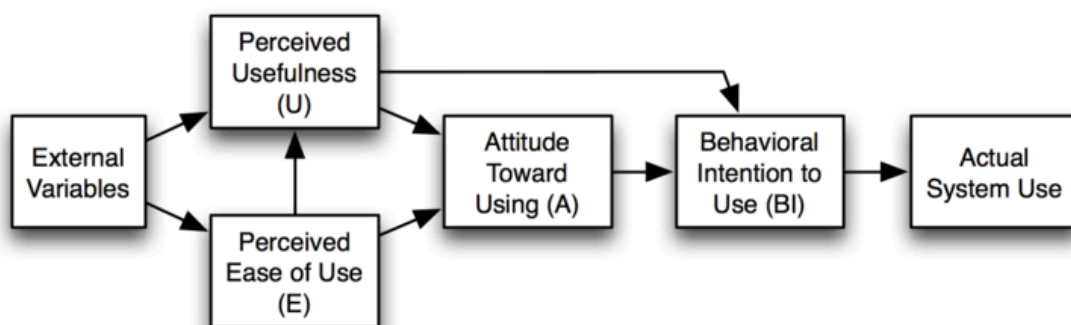

Figure 1: Original Technology Acceptance Model. Source: Davis (1989).
- There is little experience in using models for decision-making, and there may be organizational resistance for doing so. Analysis of technology adoption have helped identify critical factors, which in fact apply to many technical or social innovations (such as our use of models to support adaptation planning). The Technology Acceptance Model (TAM -Davis, 1989 - Figure 1), based on the Theory of Reasoned Action (Fishbein & Ajzen,1975), has been highly successfully applied in a broad range of contexts. The first factors to consider are the *Perceived ease of use* and the *Perceived usefulness*.